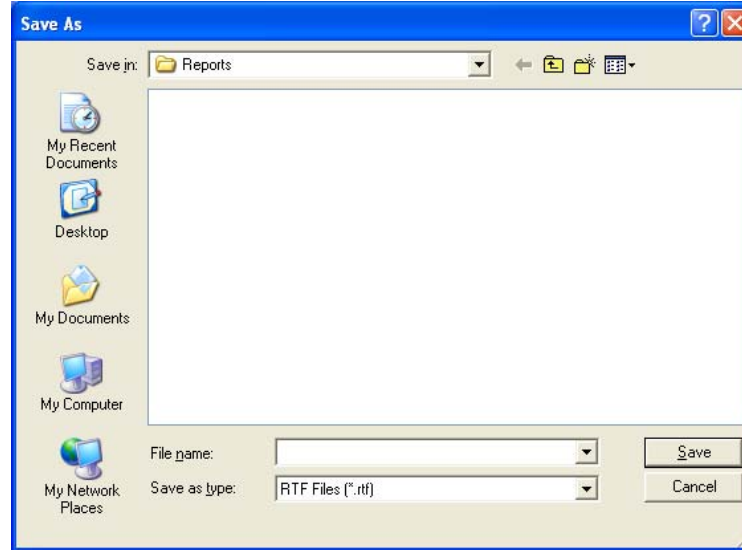

Figure 10-25
- To save the report on the screen, click the **Save to File** button or press *Alt+S*. The Save As box appears as shown in Figure 10-25. Reports are saved as an RTF file in Captus3000\_2\Reports\ folder by default.